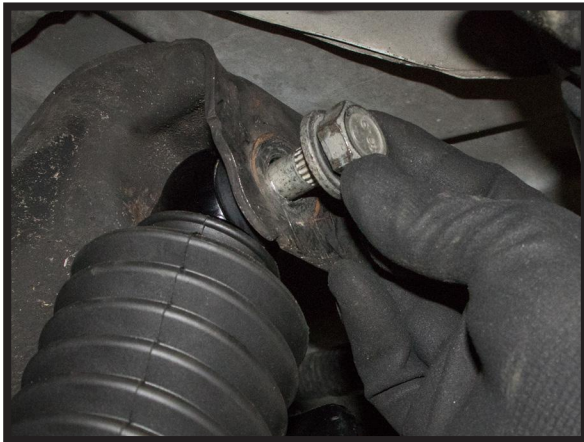

FIGURE 66
4. INSTALL THE UPPER AND LOWER SHOCK MOUNTING HARDWARE AND TIGHTEN TO MANUFACTURER'S SPECIFICATIONS. (FIGURES 66, 67)